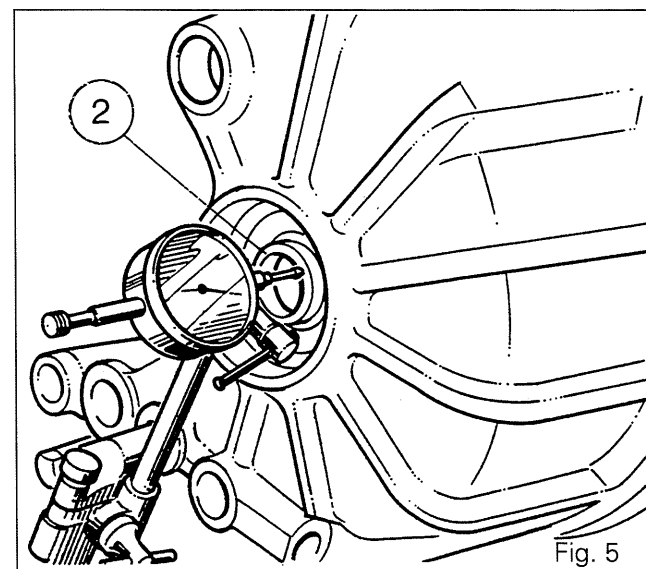

Fig. 5
28. Place the tip of the dial gauge on the end of shaft (2) (Fig. 5).